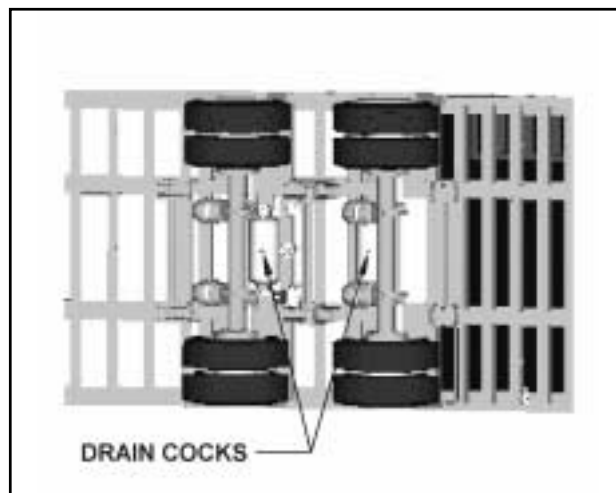

Figure 4-7 Drain Cock Locations
- d. Drain air reservoir daily. A drain cock on the bottom of each air reservoir vents the tank to drain collected water and oil. If held open, air pressure in the tanks is relieved, causing the emergency or parking brakes to be applied (See Figure 4-7).